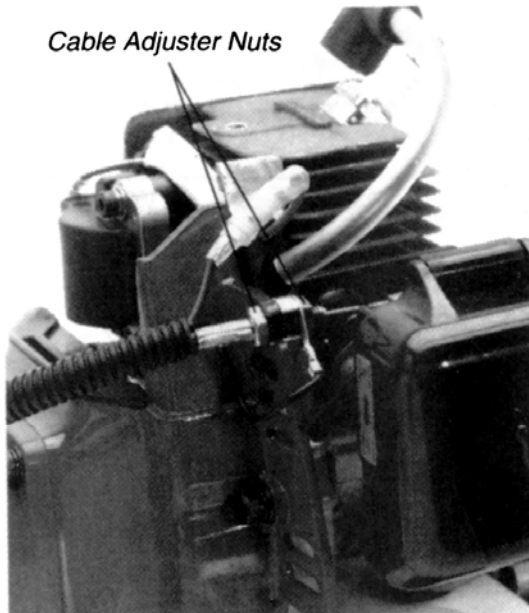

Figure 9
1. Loosen the two 10mm throttle cable nuts at the fan cover as shown in Figure 9